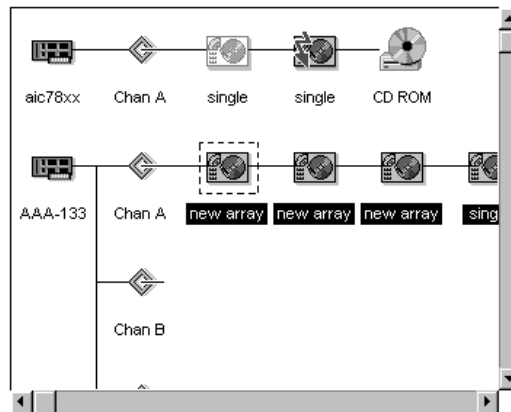

Figure 4-3. Selecting Array Members
- 3 Select disks for the new array by clicking Disk icons  that have the word **Single** beneath them, as shown in Figure 4-3.